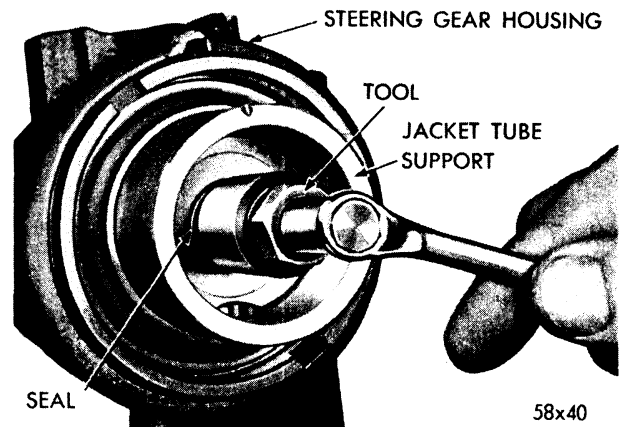

Fig. 20—Removing Worm Shaft Upper Oil Seal with Tool C-3638
Remove worm shaft upper oil seal with puller Tool C-3638 (Fig. 20).
14. STEERING VALVE ASSEMBLY (Fig. 20)